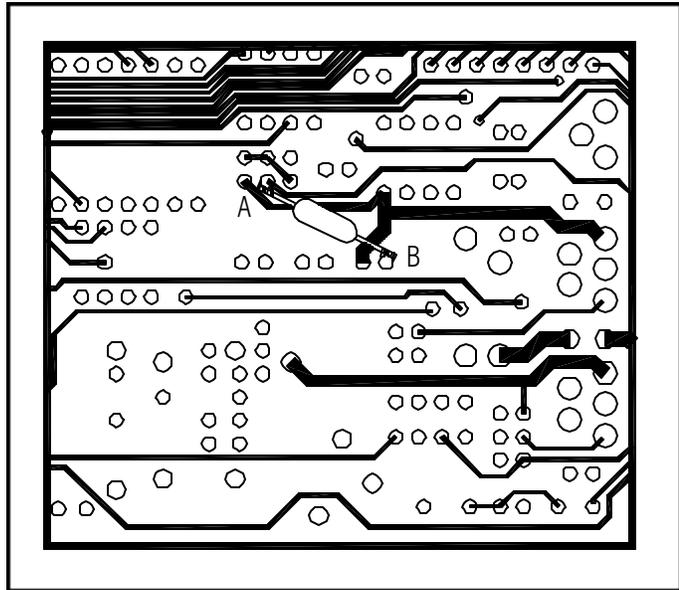

Figure 28 Install R67 on the bottom side of the PC board. Point "A" is the bottom of the bare lead of R57. Point "B" is the negative lead of C36.
- ___ 12. Install R67 as shown in Figure 28 on the **SOLDER** side of the PC board. Equally cut both leads of R67 so that the overall length of the resistor and leads is about 11/16 inch. Position one lead as shown at point "A" in the figure with the lead touching the already soldered R57 lead (center of three leads). Hold in place with one hand and tack with a little blob of solder on the tip of your iron. Position the lead at point "B" and repeat. Solder both joints if more solder is necessary. Cut any excess R67 lead off. Make sure that there are no shorts to other leads.